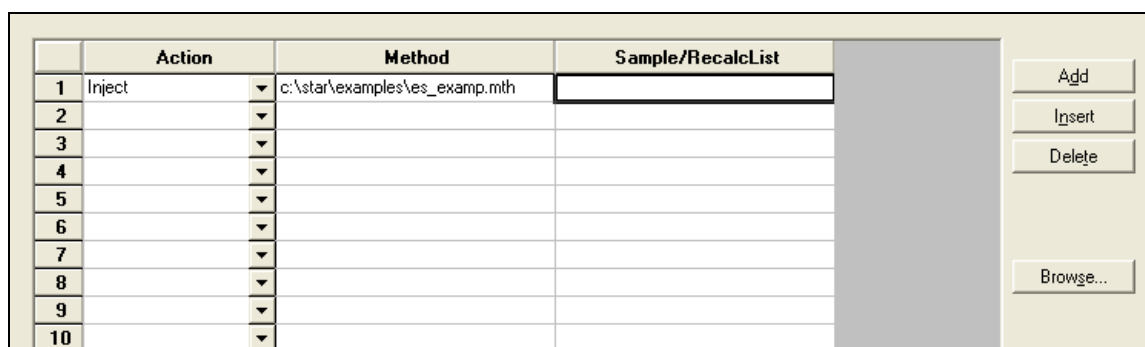

Figure 10: Example for Creating a Sequence List
- 2) Go to 'New Sequence List', name it and click 'Save' (see figure 10).